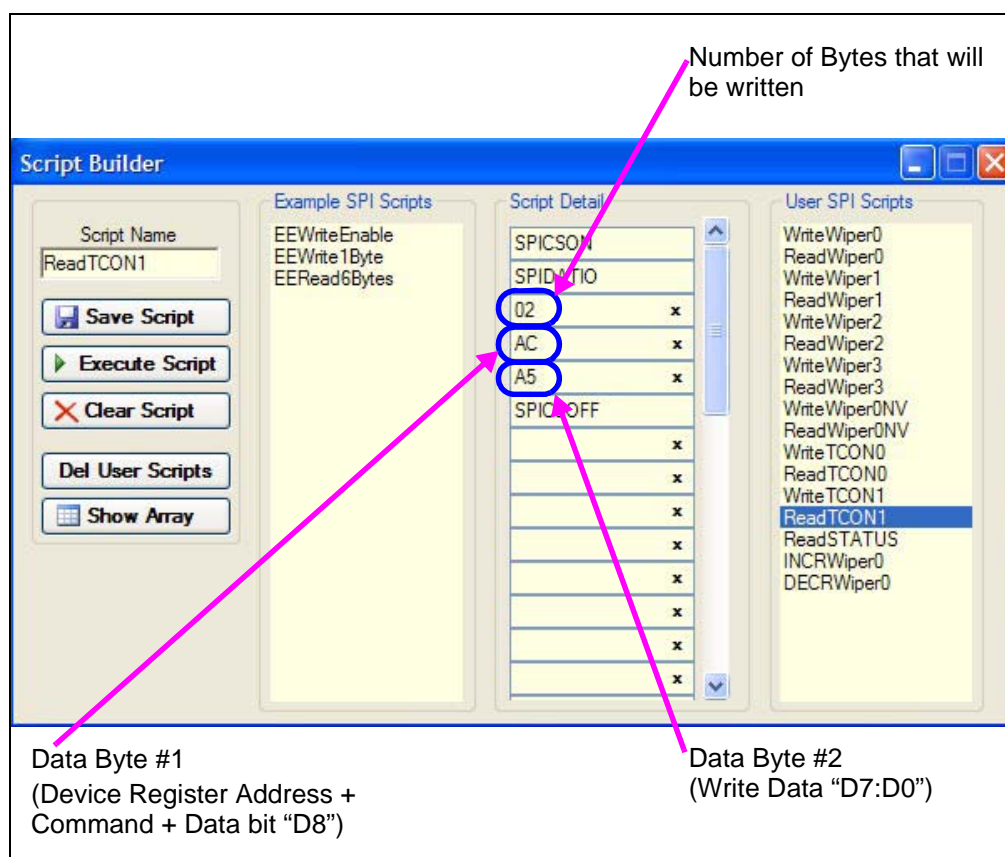

FIGURE 2-13: MCP43XX Read TCON1 Script.
19. Select the “ReadTCON1” script in the User SPI Scripts column. It should look like Figure 2-13.